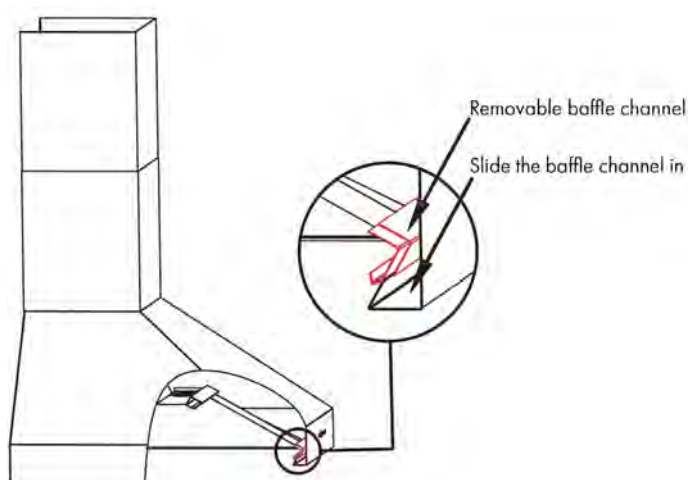

*Figure 1*
ZLINE's professional series range hoods are equipped with two removable dishwasher-safe baffle channels in which the filters rest. To install the channels, place them inside the hood under the front and back edges of the hood. The channels are kept in place by installation pieces on the sides and back of each channel. *Figure 1*
**NOTE:** Baffle channels may already be in place on some wall range hood models. See Figure 1 for positioning.